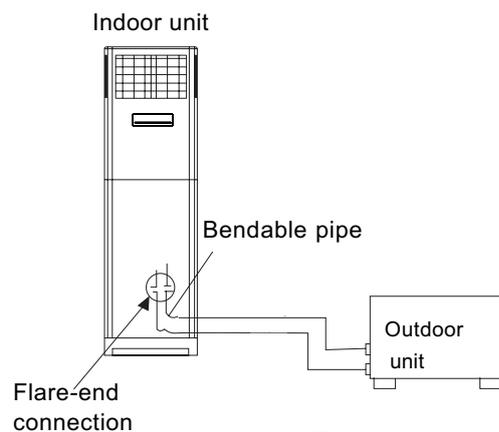

Fig.8
1. Both of the indoor and outdoor units adopt flare-end connection. Refrigerant pipe as shown below is used to connect indoor and outdoor units. (As shown in Fig.8)